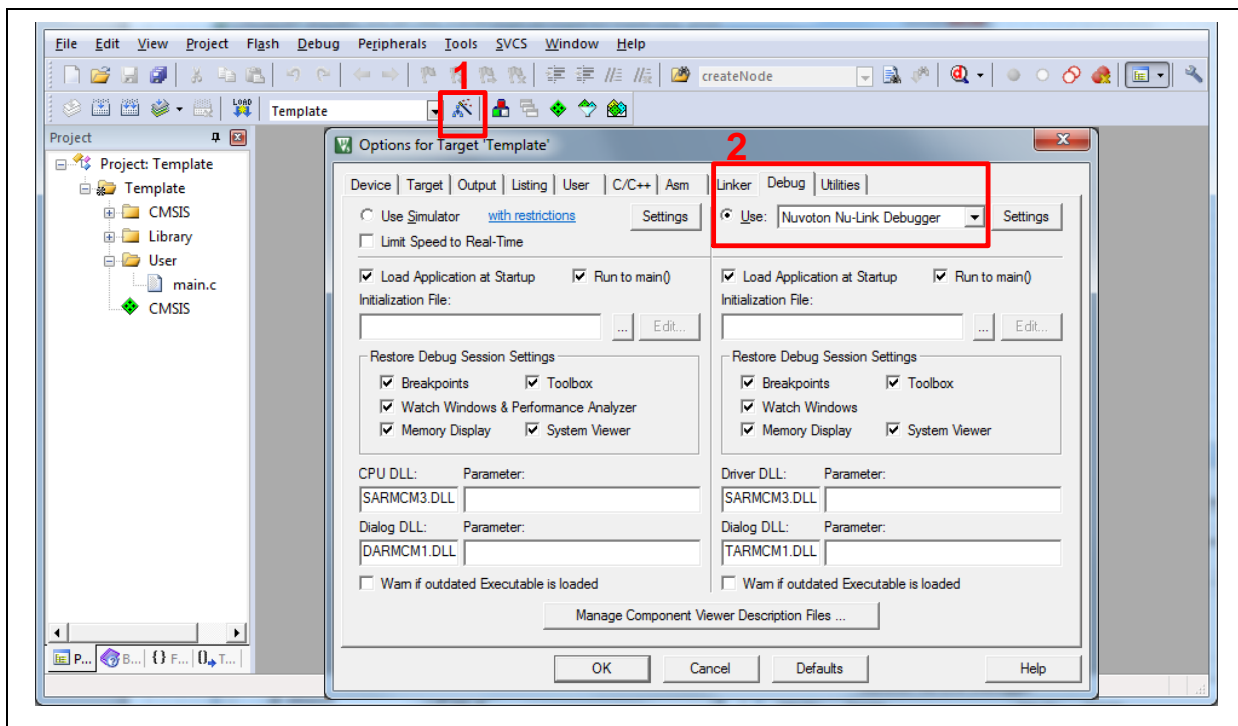
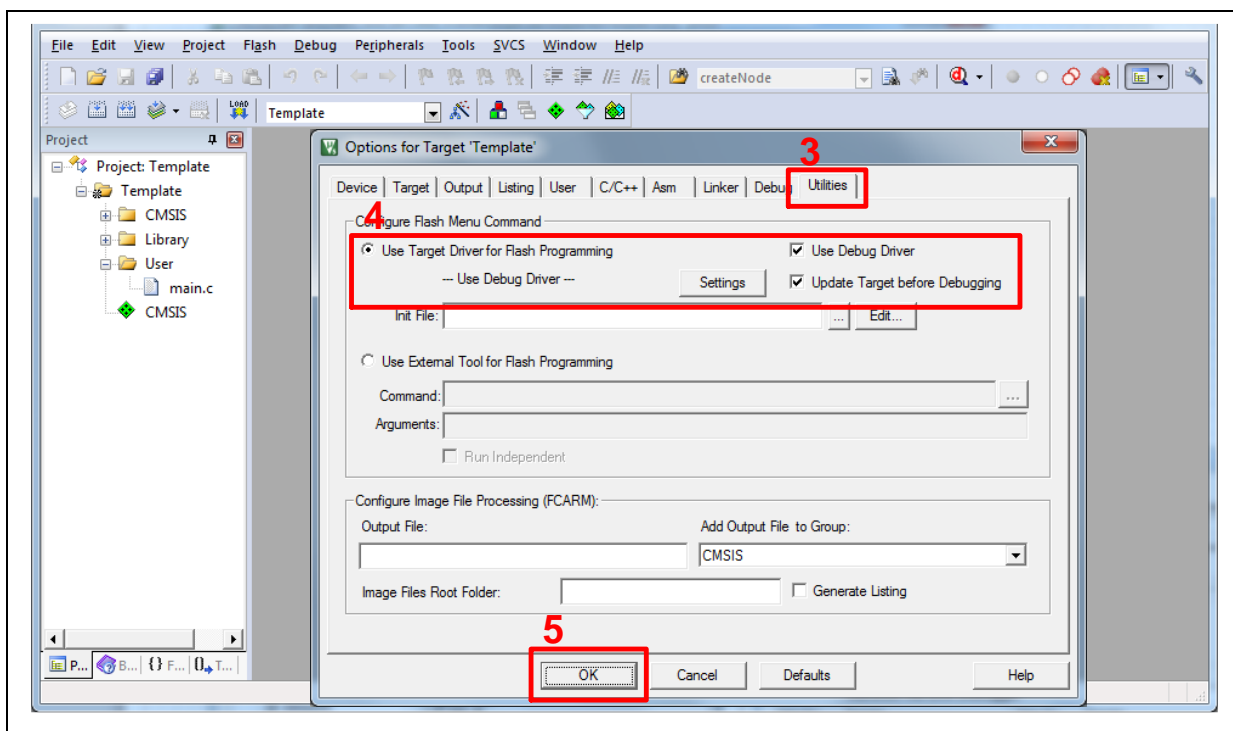

Figure 3-18 Debugger Setting in Options Window
Figure 3-19 Programming Setting in Options Window
2. Make sure the debugger is “Nuvoton Nu-Link Debugger” as shown in Figure 3-18 and Figure 3-19.
Note: If the dropdown menu in Figure 3-18 does not contain “Nuvoton Nu-Link Debugger” item, please rework section .